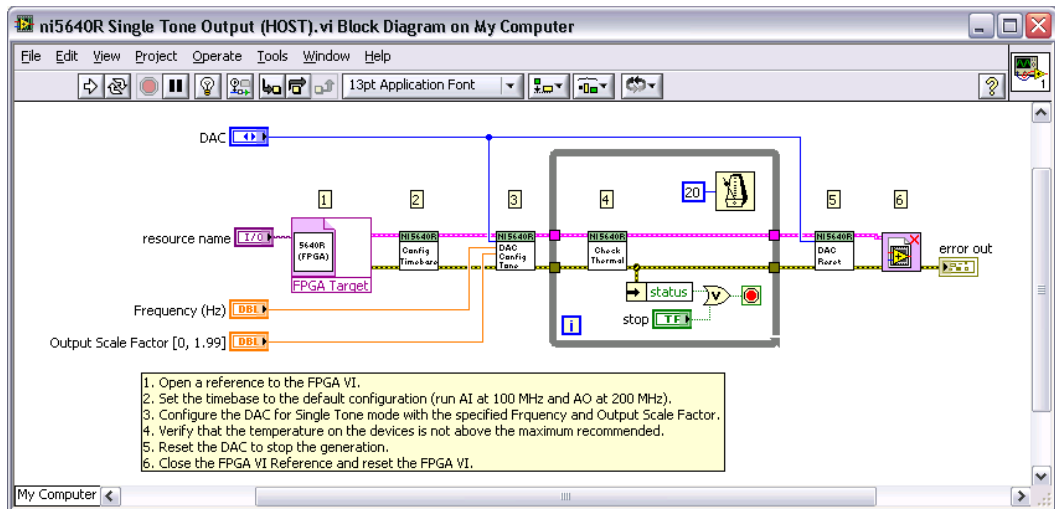

Figure 9. ni5640R Single Tone Output (HOST) VI Block Diagram
1. Open the ni5640 Single Tone Output (HOST) VI from the **Project Explorer** window. Notice that the host VI appears above the FPGA target in the **Project Explorer** window; the host VI appears under My Computer because it runs on the Windows computer. As shown in Figure 9, the target on which the VI runs (in this case, My Computer), appears in the lower left corner of the VI.